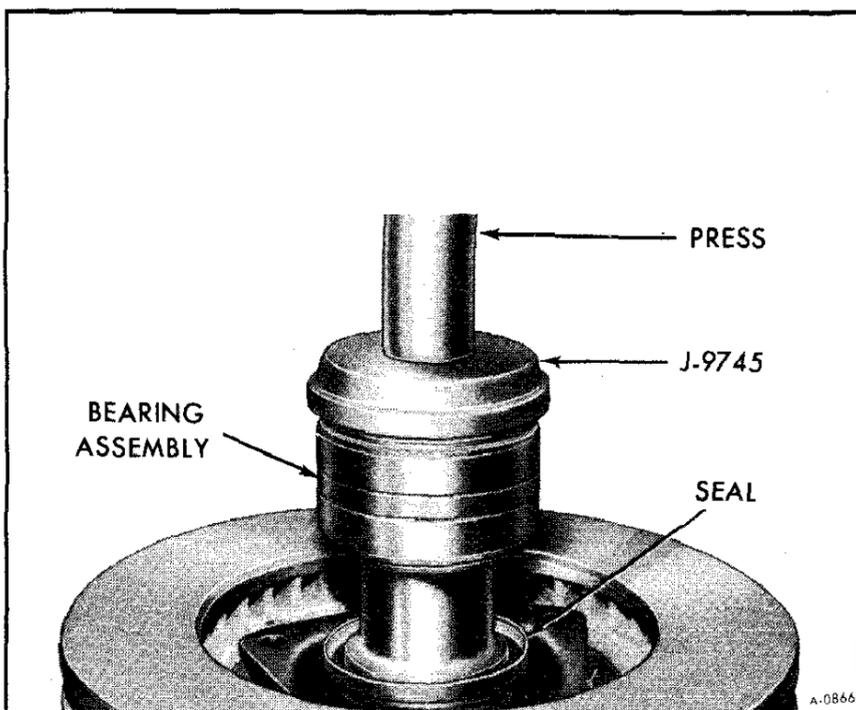

Figure 8—Installing Bearing
3. Install bearing as shown in figure 8.